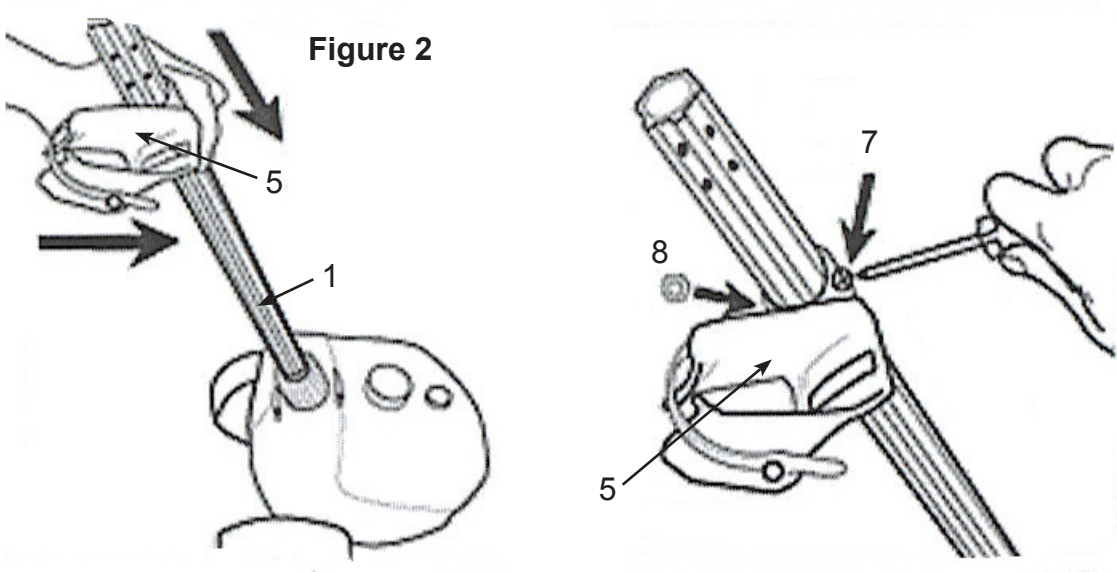

Figure 2
2. Slide Holster (5) onto Extension Handle (1). The Holster (5) *must* face the front and be on the right side of the Extension Handle (1) viewed from behind the sprayer. Fasten Screw (7) and Hex-Nuts (8) securely with screwdriver (not included). See **Figure 2**.